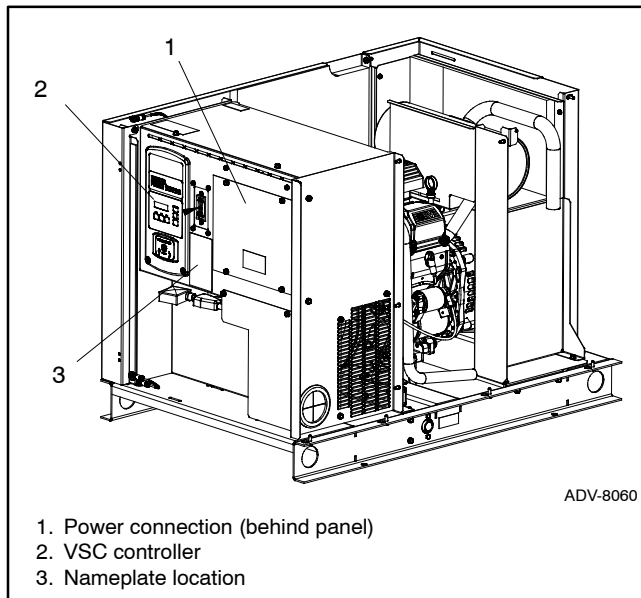
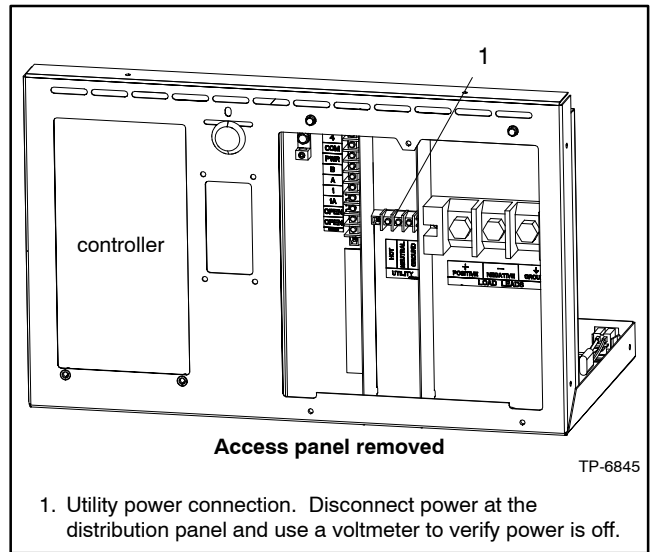

Figure 28 6VSG
Figure 29 Power Connection Detail
5. Disconnect utility power to the generator set by opening the circuit breaker in the building's distribution panel. Use a voltmeter to verify that utility power has been disconnected. See Figure 28 and Figure 29 for the utility power connection location.